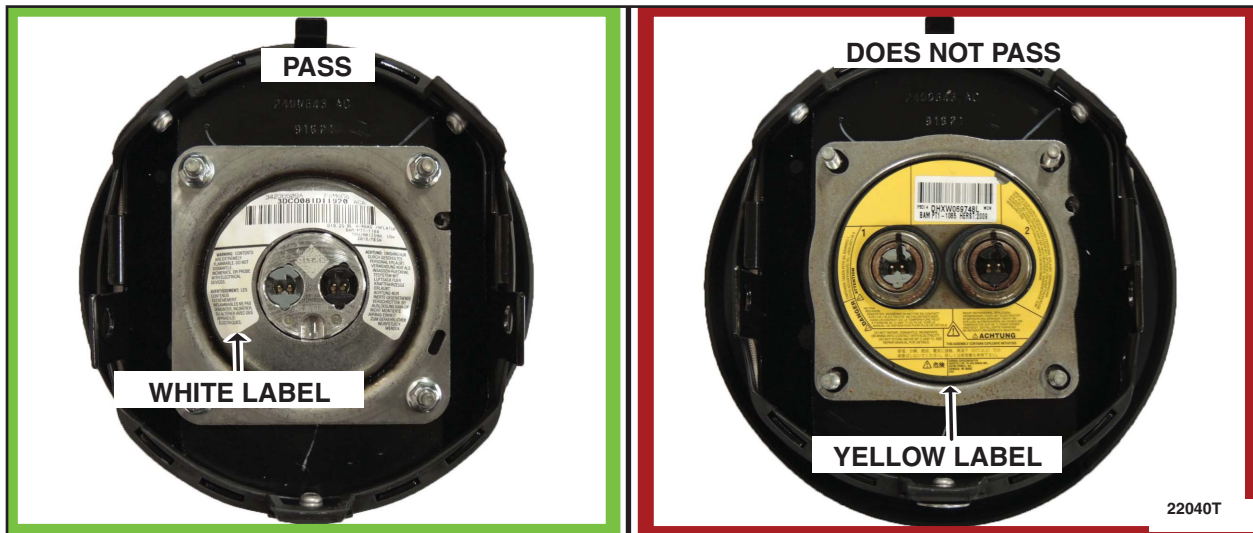

FIGURE 2
3. Inspect the label on the Driver Airbag inflator as shown in Figure 2. Is the label white in color?